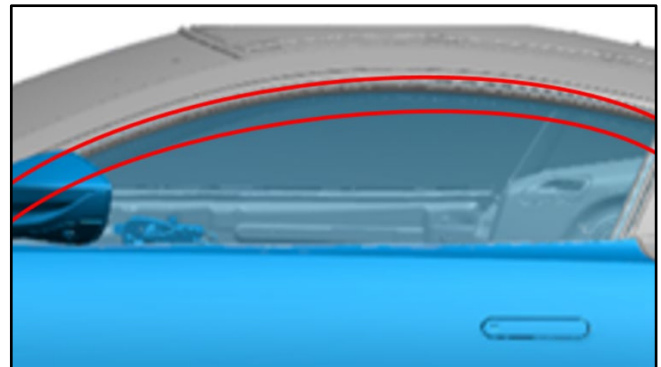
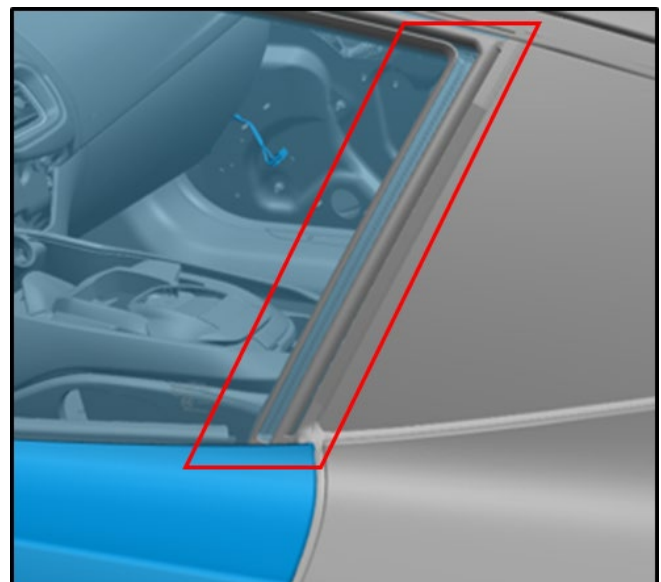

Figure 4
Figure 5
12. Do a check to make sure that the door glass seals correctly to the primary door weatherstrip. (Refer to Figure 4 and Figure 5.)